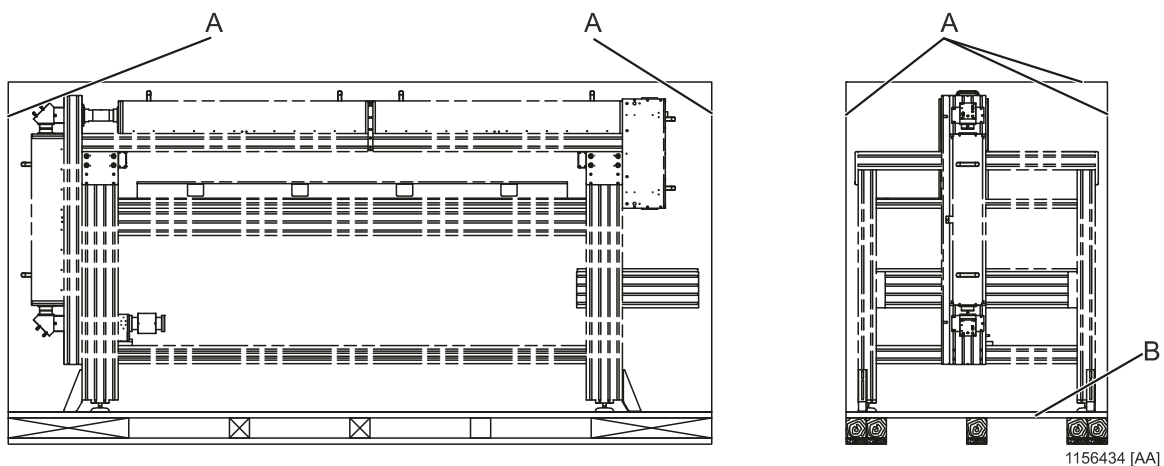
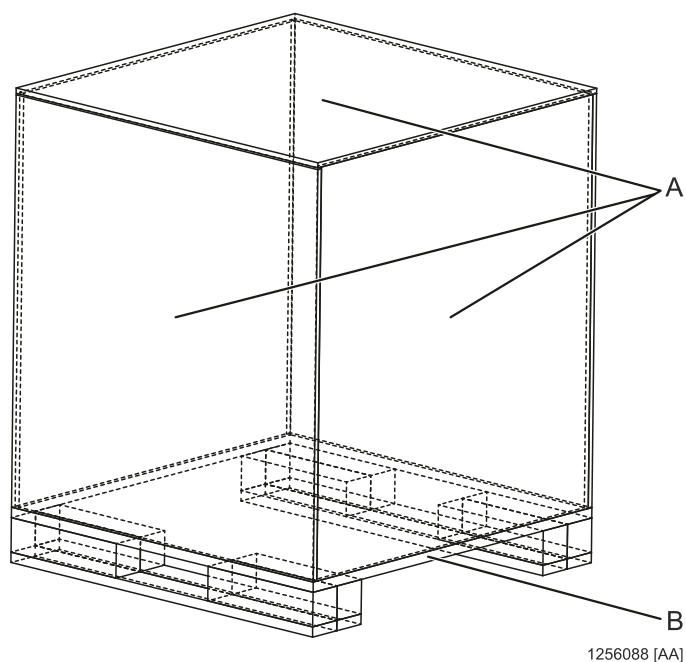

Figure 19: Rigid transport packaging for main frame and accessories
Figure 20: Rigid transport packaging for base frame and class 1 housing
The two rigid transport crates (see Figure 19 and Figure 20) fully encapsulate the VarioLas Standard and inner cover. They consist of a plywood base pallet (B) and plywood upper panels (A) at the sides, front, rear and top.